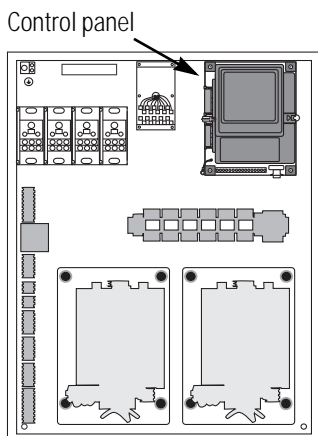

Figure 21: Control panel
2. Open the ELTS cabinet and locate the ELTS control panel using Figure 21.